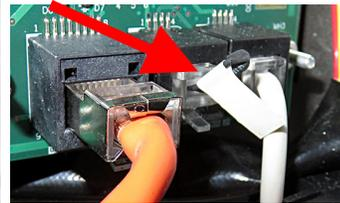

Figure 20
25. Remove the RJ-11 terminator resistor from the SIB (Smart Interface Board) (see Figures 20 and 21). Retain for a spare.